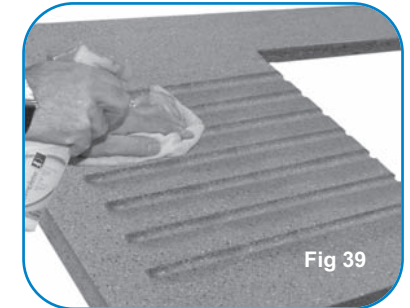

Fig 39
1. Carefully hand sand the drainer grooves with 240 grit paper then finish with an ultra fine Scotchbrite pad ensuring not to round over the edges of the grooves (fig 39).